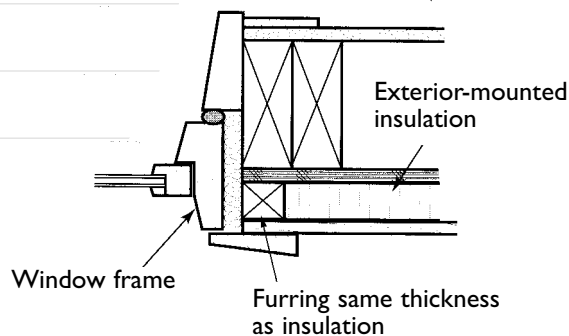

FIGURE 25
- ◆ Where exterior rigid insulation is used, install a furring strip the same thickness as the insulation around the perimeter of door or window frames to provide adequate surfaces for fastening (see Figure 25). This also provides better backing for caulking and flashing.